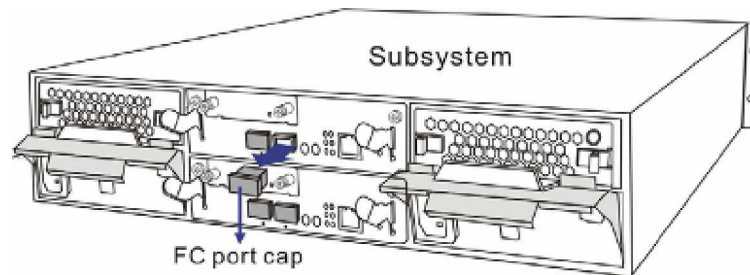

Figure 3-1: Removing the FC Port Cap
Each controller module comes with two (2) plastic caps that cover the FC ports on the controller module rear panel. These caps help the subsystem keeps the internal regular cooling airflow. Until you are ready to insert a SFP transceiver, these caps should be kept in place. Remove the FC port cap by pulling it out from the subsystem rear panel. (See **Figure 3-1**) Insert a SFP transceiver immediately after the FC port cap is being removed. Reserve the FC port cap to cover an FC port if SFP transceiver is being removed later.